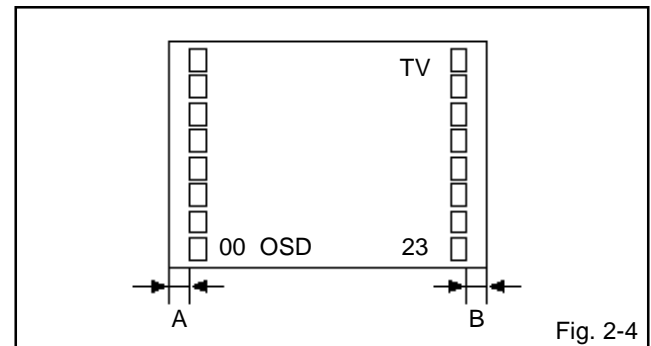

Fig. 2-4
2. Press the VOL. UP/DOWN button on the remote control until the difference of A and B becomes minimum. (Refer to **Fig. 2-4**)